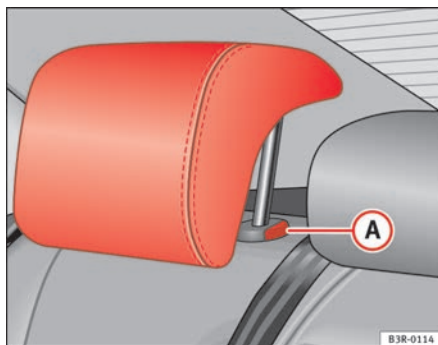

Fig. 111 Outer rear seats:
- Press button **A** ⇒ fig. 111 and lower the head restraint.
- Press button **A** ⇒ fig. 111 and pull out the head restraint.